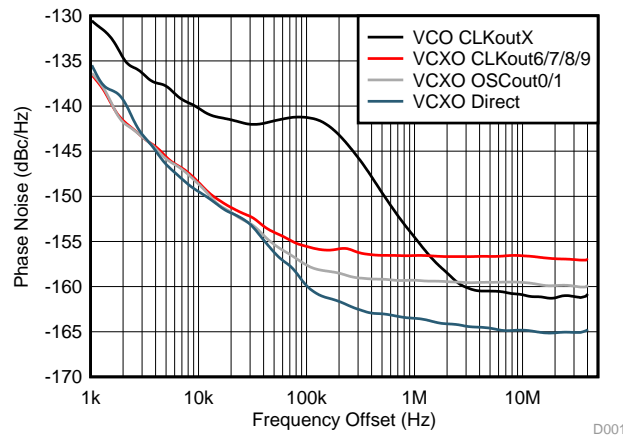

Figure 38. LVPECL Phase Noise, 122.88 MHz
- Since PLL1 outputs have best in-band noise, OSCout0 is used to provide LVCMOS output to the PLL reference for the LO. LVCMOS (Norm/Inv) is used instead of LVCMOS (Norm/Norm) to reduce crosstalk. It is also possible to use CLKout6/7 or CLKout8/9 for a PLL reference being driven from the VCXO. The noise floor will be higher, but close-in noise is typically of more concern since noise above the loop bandwidth of the LO will be dominated by the VCO of the LO. See Figure 38.